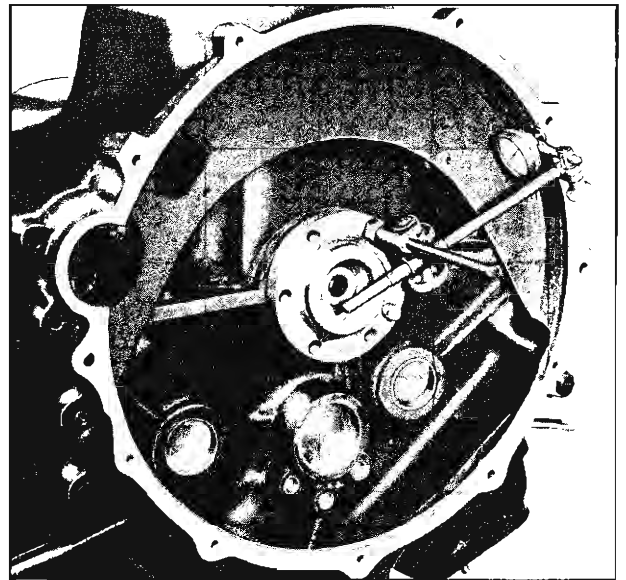

Fig. 182—Checking Bore Runout (Powerglide)
8. Check indicator readings at the 9, 12 and 3 o'clock positions, carefully lifting indicator button over each cutaway section of flange on Powerglide models (fig. 182). The runout should not exceed .005".